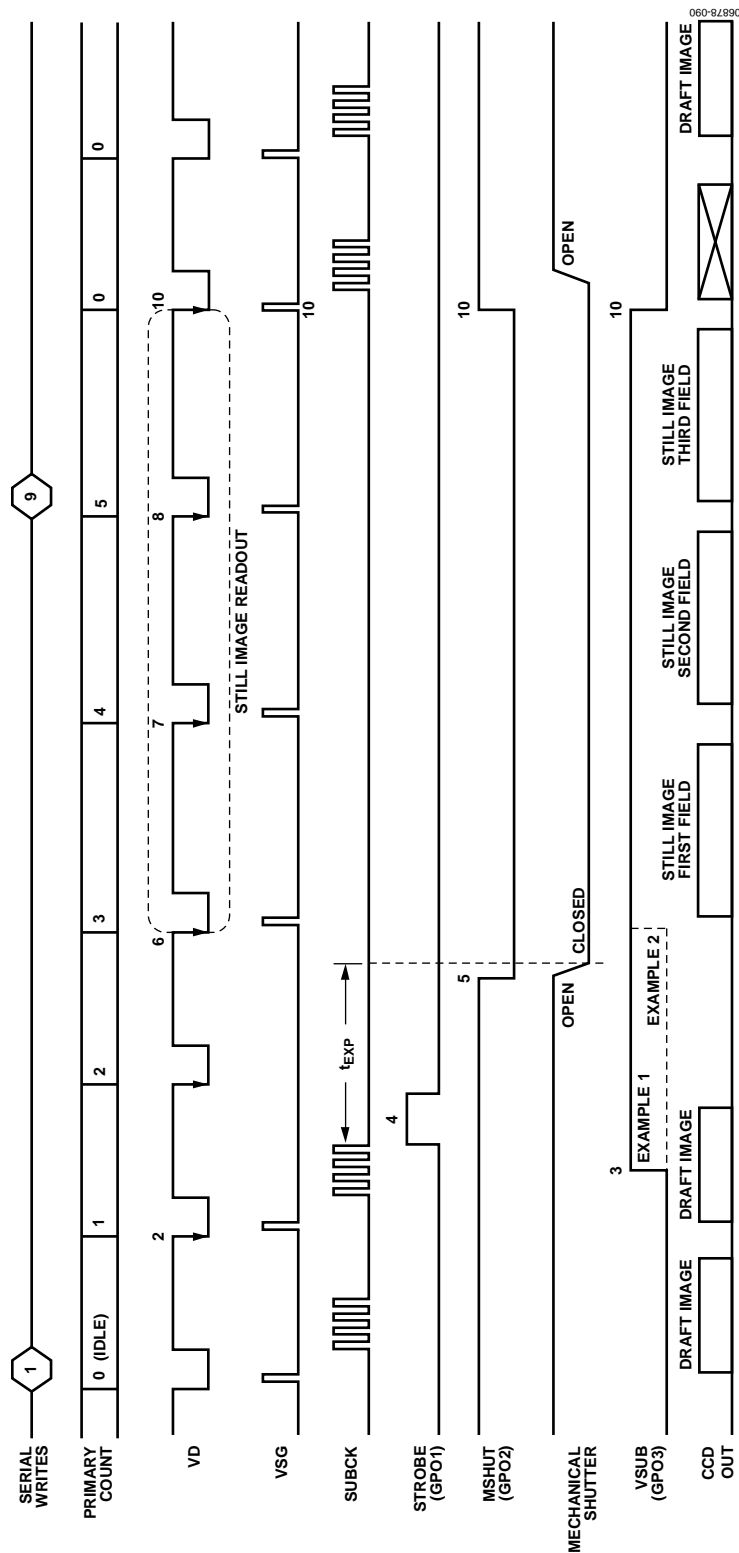

Figure 90. Complete Exposure/Readout Operation Using Primary Counter and GPO Signals
Figure 90 illustrates a typical expose/read cycle while exercising the GPO signals. Using a three-field CCD with an exposure time that is greater than one field but less than two fields in duration requires a total of five fields for the entire exposure/readout operation. Other exposure times and CCD field configurations require modification of these example settings.
3. GP3 (VSUB) output turns on at the field/line/pixel specified. In Figure 90, VSUB Example 1 and Example 2 use GP3TOG1\_FD = 1.